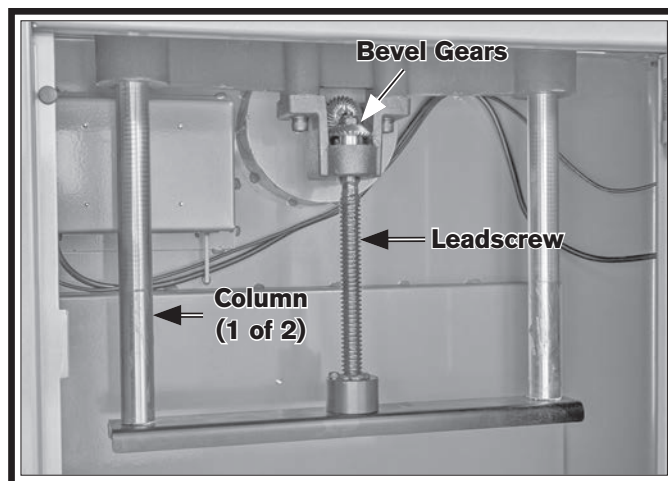

Figure 47. Table height components to lubricate.
4. Clean table adjustment leadscrews, columns, and bevel gears (see Figures 47–48) with rags, brush, and mineral spirits to remove grime and old lubrication.